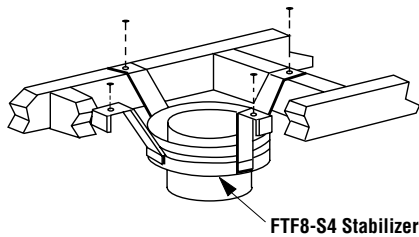

Figure 29
Install the Model FTF8-S4 stabilizer by fitting inner section down into respective section of proceeding flue pipe and locking outer stabilizer section into place over the outer chimney pipe. Position for proper clearance through framed opening and nail straps securely (under tension in "shear") into place on framing. Use 8d nails. Attach successive lengths of chimney pipe directly to stabilizer using same techniques as described in Step 4 (*Figure 29*).
Step 1. Use Offset Chart to determine amount of horizontal offset (A) and height (B) for various chimney section assemblies.
Step 3. Use Elevation Chart as job estimator only. Add necessary firestop spacers and stabilizers as required. Firestop spacers must be used as shown in *Figures 23 and 24* and stabilizers as shown in *Figure 29*.